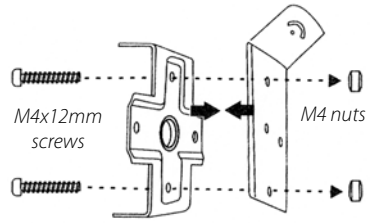

Figure 3-1
1). Take the right angle bracket (Figure 3-1) and attach the cross bracket using (2) M4 nuts and (2) M4x12mm screws. Repeat for all brackets.